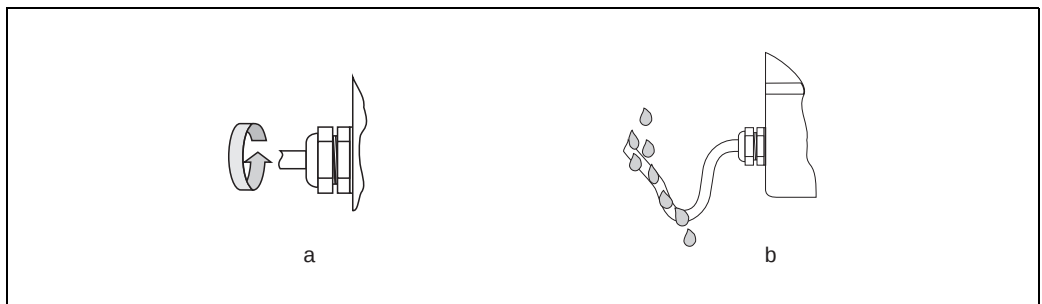

Fig. 26: Installation instructions, cable entries
- The cable entries must be firmly tighten (point **a** → Fig. 26).
- The cable must loop down in front of the cable entry ("water trap") (point **b** → Fig. 26). This arrangement prevents moisture penetrating the entry.